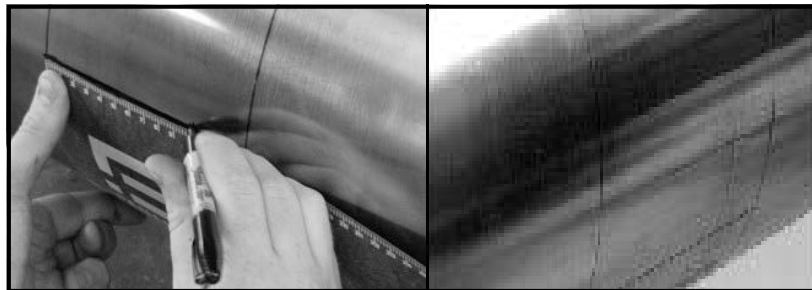

Figure 13: Marking the 3 o'Clock Position
3. Line up the zero scale of the layout tape at the desired location of the first transducer. (For a typical installation, this point will be the 3 o'clock position on a horizontal pipe.) Mark each of the two circumferential lines at the zero point. Connect each of these marks using a straight edge (for example, the edge of the layout tape) as shown in *Figure 13* below.